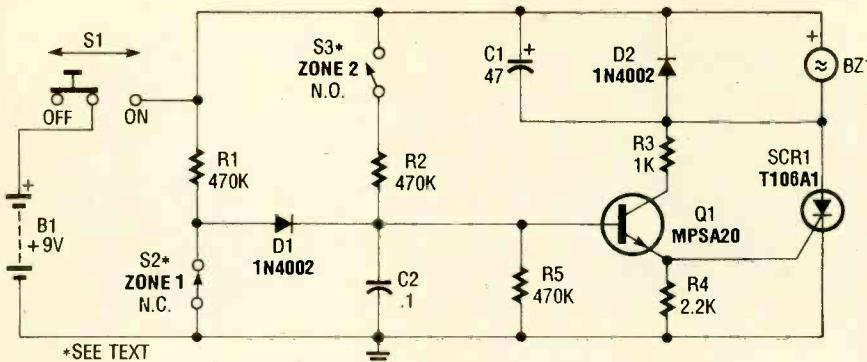

Fig. 1. The alarm is a simple circuit that drives a loud buzzer when either of its two zones are triggered.
**Zones.** Looking at the schematic diagram in Fig. 1, you can see that the unit has two zones. What that means, is that two separate entry points can be monitored, either both at the same time, or individually. That would be useful if, for example, you wanted to monitor the front door of your home for intruders, but were having a cookout in the backyard and wanted to leave the back door free for people to go in and out. Of course, if you were going to be out, you would want to have both doors monitored.
**Circuitry.** As for the circuit itself, you can see from Fig. 1 that it is very simple. Switch S1 is the main power switch, and S2 and S3 are for Zones 1 and 2, respectively. Switches S2 and S3 operate as follows: S2 normally pulls the anode of D1 to ground, preventing it from conducting. If S2 is opened, D1 is allowed to conduct, which puts a positive voltage on the base of Q1, causing that transistor to turn on.
*Fig. 1.* The light strip controller is a simple circuit built around a T106D1 SCR. A 100k potentiometer ( $R_1$ ) is used to vary the current presented to the gate of the SCR. That, in turn, determines the level of energy moving through the SCR, which is the energy available to light the lamp.